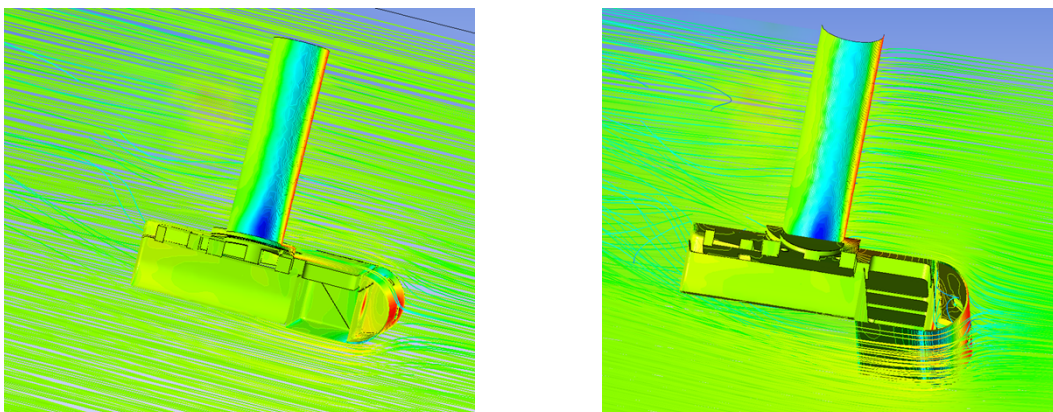
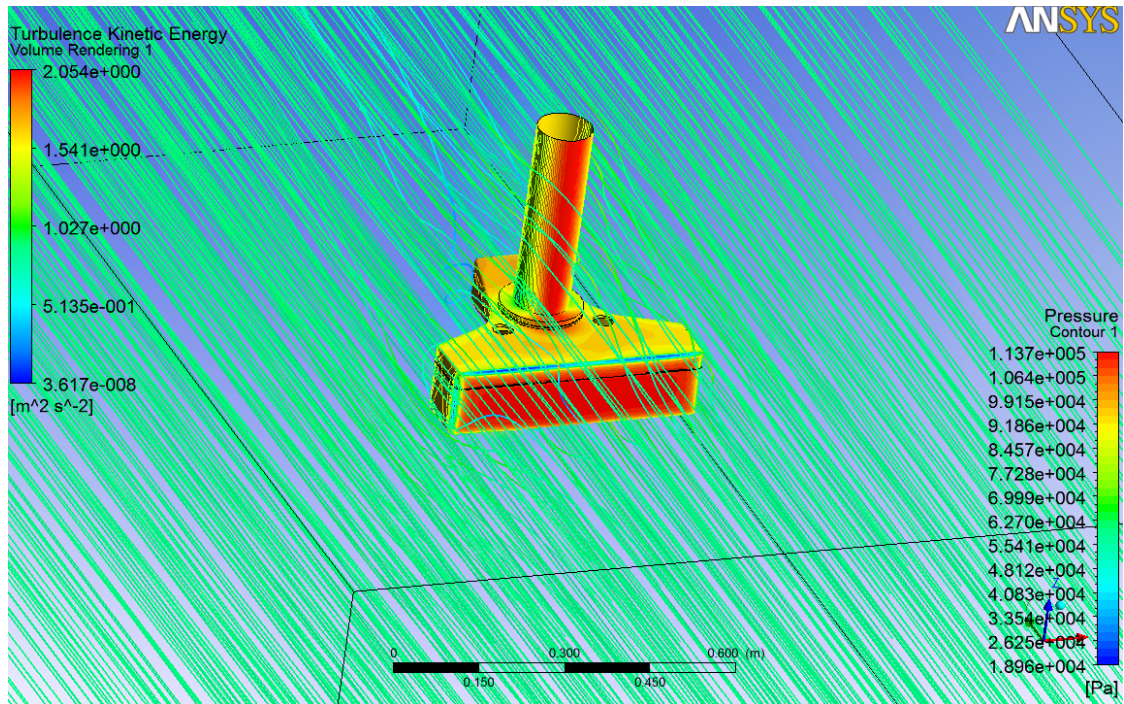
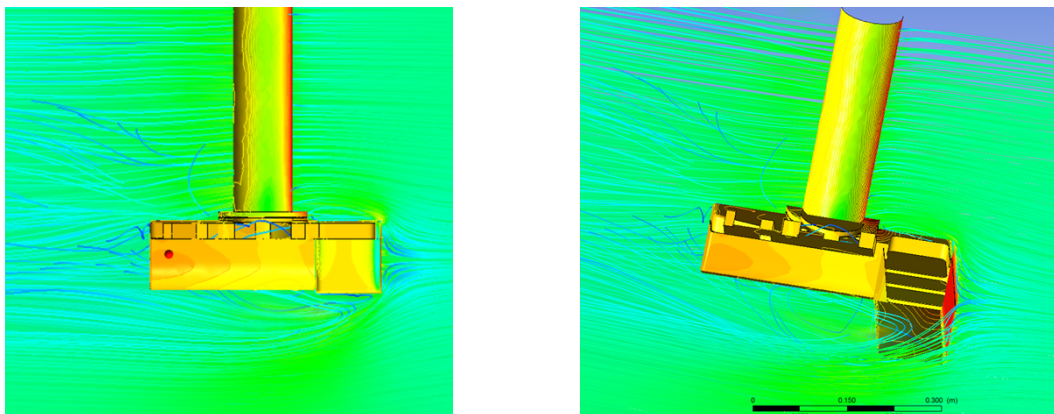

Figure 52: Flow around Single T50 (shallow) with Fairing, Cross Section of Symmetry Plane
Figure 53: Flow at 10 knots around Single T50 (shallow) without Fairing
Figure 54: Flow around Single T50 (shallow) without Fairing, Cross Section of Symmetry Plane
- T50 single head (shallow19) **with** front fairing (*Figure 51* and *Figure 52*) or **without** front fairing (*Figure 53* and *Figure 54*).
Figure 51 illustrates the flow at 10 knots around the T50 single head (shallow) with front fairing. The drag on the pole, sonar head, and bracket is in the region of 650N. The same situation without front fairing is shown in Figure 53.
Figure 52 is a cross section of the symmetry plane of the T50 single head (shallow). The front fairing and bracket assure a steady water flow around the receiver and projector. The same situation without front fairing is shown in Figure 54.
Figure 53 illustrates the flow at 10 knots around the T50 single head (shallow) without front fairing. The drag on the pole, sonar head, and bracket is in the region of 1000N. The same situation without front fairing is shown in Figure 51.
Figure 54 is a cross section of the symmetry plane of the T50 single head (shallow). Without the front fairing the flow is still reasonable, but not as steady as with the fairing in front of the receiver. The same situation with front fairing is shown in Figure 52.